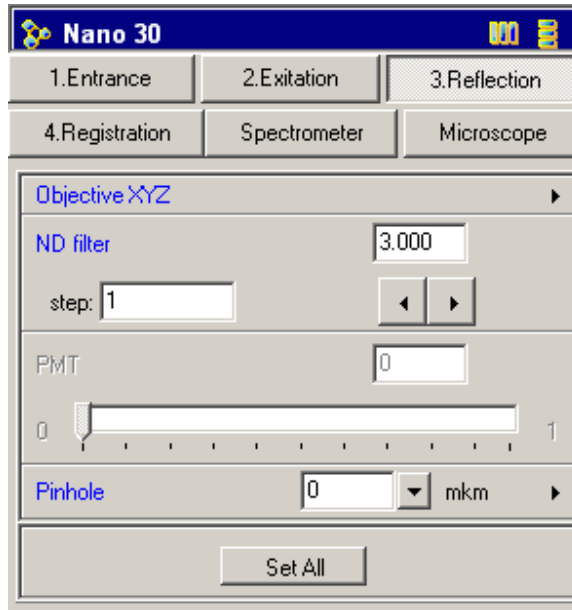

Fig. 12-21. Reflection tab of the Nano 30 dialog
- a. Go to the **3. Reflection** tab (Fig. 12-21) by clicking the corresponding title.